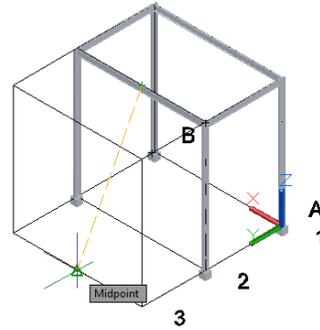
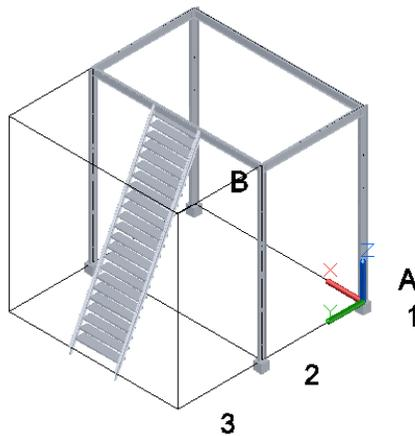

Figure 3-43 Model after adding footings
Figure 3-44 Model after creating stairs
- Select the midpoint of the bottom grid line, as shown in Figure 3-43; a line is placed between the two specified points. Press ENTER to create the stairs on the specified line, as shown in Figure 3-44.